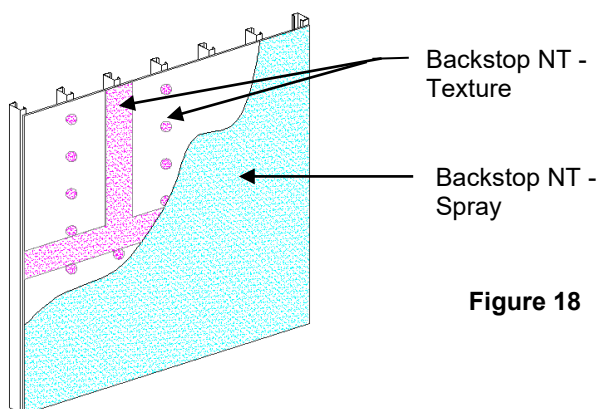

Figure 18
- NOTE: OSB sheathing requires that joints and fasteners be treated with Backstop NT - Texture. A minimum of two (2) coats of Backstop NT - Spray are required for the field of the wall. Backstop NT - Texture is not recommended for application in the field of the board.**
- 1) Backstop NT - Spray material should be applied in a uniform, continuous film at the recommended coverage rate free of voids and pinholes – Figure 18. **NOTE: Sheathing substrates with a surface texture or high porosity will require additional material.**